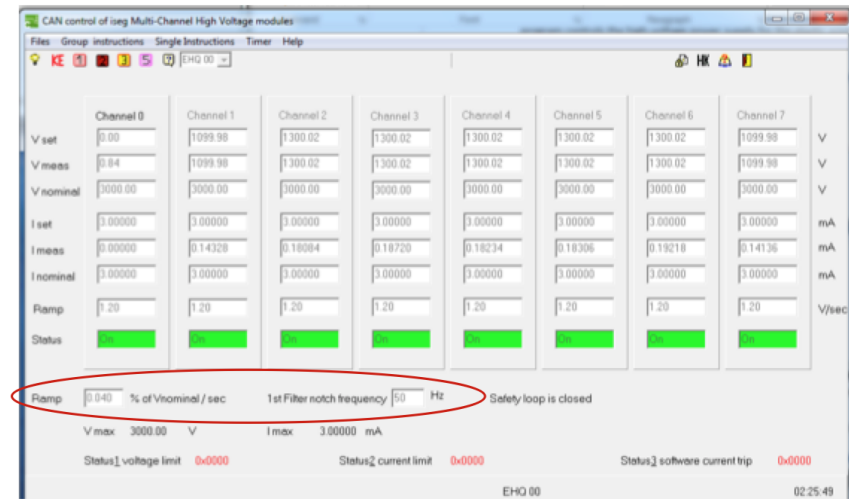

Figure 19. EHS/EHQ 00 and 01 iSEG Multi-Channel High-Voltage Modules Screens; VRamp and IRamp fields are circled in red.
9. Make sure the voltages (Vset) for ESQ00/EHS00 and EHQ01/EHS01 are set (*Figure 19*). Modify the Vset fields as follows: